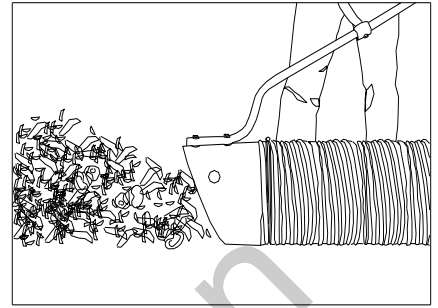

Fig. 3
**INTAKE OPERATION:** With machine running and fully assembled, move the nozzle in sweeping motions over debris. Always allow air to flow into the nozzle along with the debris. Do not completely block the nozzle when vacuuming, it will reduce performance, and increase clogging (See figure 3).